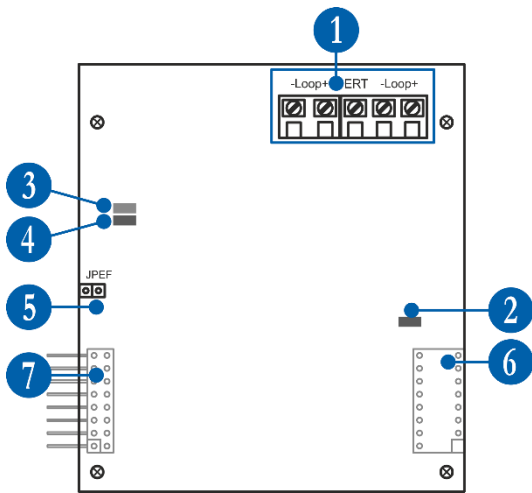

Figure 20
The iRIS8 TTE Loop Expander (see item 4.3.2, Figure 20) realizes the connection between the Output Module and devices connected to the communication line.